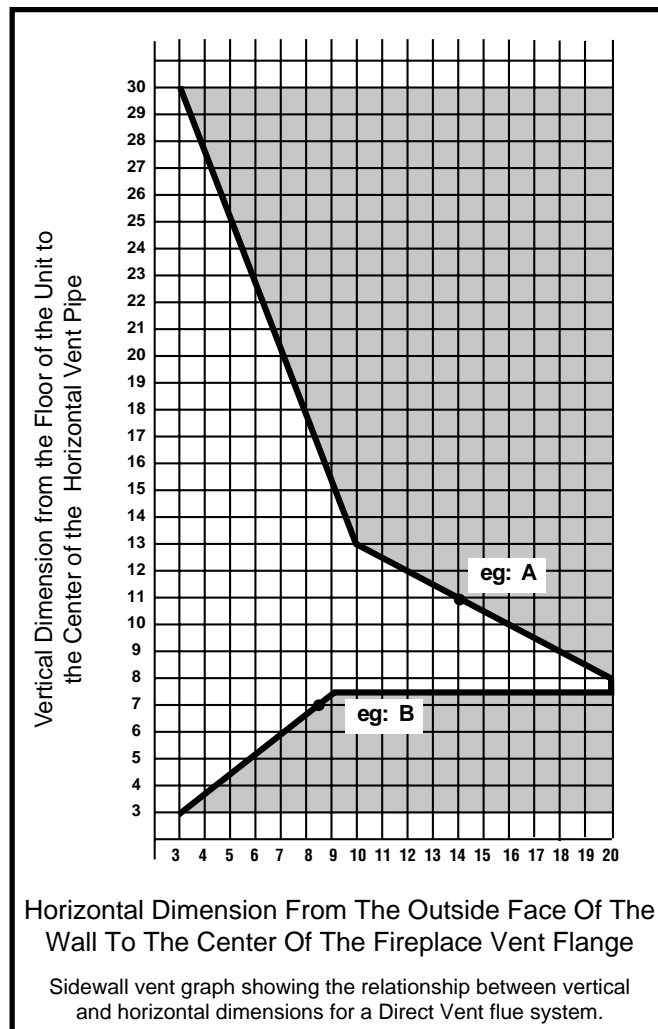

Fig. 11 Sidewall venting graph. (Dimensions in feet)
1. Determine the height of the center of the horizontal vent pipe exiting through the outer wall. Using this dimension on the Sidewall Vent Graph. (Fig. 11) locate the point intersecting with slanted graph line.